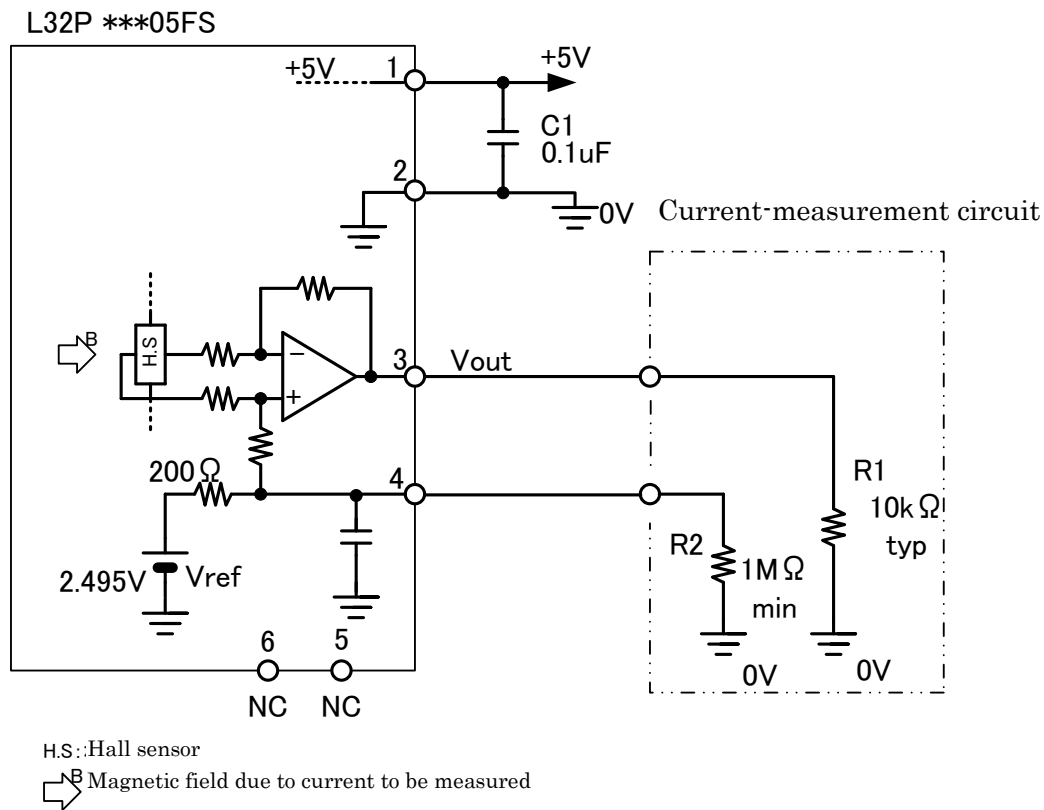

Fig. 2: Circuit for using internal reference voltage (Vref)
#### □ Description of Fig. 2
This current sensor converts a measured current into a voltage. The output voltage  $V_{out}$  (3) in Fig. 2 is output in accordance with the (4) pin voltage of 2.495V. When the current to be measured is 0,  $V_{out}$  (3) = 2.495V. When the current to be measured is in the plus direction,  $V_{out}$  (3) becomes 2.495V + (voltage converted from the measured current). When the current to be measured is in the minus direction,  $V_{out}$  (3) becomes 2.495V – (voltage converted from the measured current). The relationship between  $V_{out}$  (3) and the current to be measured is shown for each model number in graphs 1 to 6 at the end of this document. Graphs 1 to 6 give standard values without consideration of the effects due to offset voltage, hysteresis error, etc. The plus direction of the current to be measured is indicated by → on the case (case or name plate).
$R1$  and  $R2$  in Fig. 2 are equivalent resistances of the receiving circuit of the current sensor output  $V_{out}$  (3). The resistance value  $R2$  connected to the  $V_{ref}$  voltage (4) is recommended to be 1 MΩ or more. As the value of  $R2$  decreases, the deviation of the  $V_{ref}$  voltage (=2.495V) increases. The load resistance between the  $V_{out}$  pin (3) and the GND potential (0V) should be the standard value of 10 kΩ and the load capacitance should be 60 pF max.
$C1$  in Fig. 2 is a power-supply capacitor for keeping the power-supply impedance at a low value. A ceramic